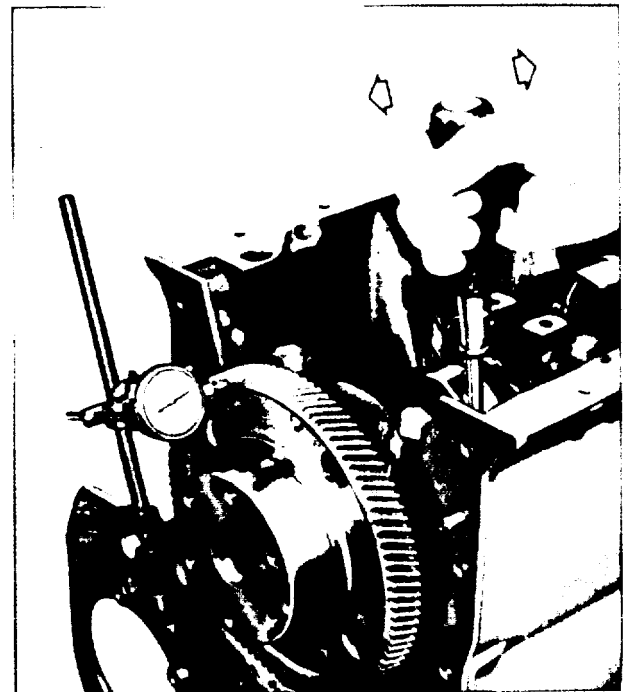

Fig. 11 . Checking Crankshaft End Play
7. Check the crankshaft end play by moving the crankshaft toward the gage (Fig. 11 ) with a pry bar. Keep a constant pressure on the pry bar and set the dial indicator to zero. Then remove and insert the pry bar on the other side of the bearing cap. Force the crankshaft in the opposite direction and note the amount of end play on the dial. The end play should be .004" to .011" with new parts or a maximum of .018" with used parts. Insufficient end play can be the result of a misaligned rear main bearing or a burr or dirt on the inner face of one or more of the thrust washers.